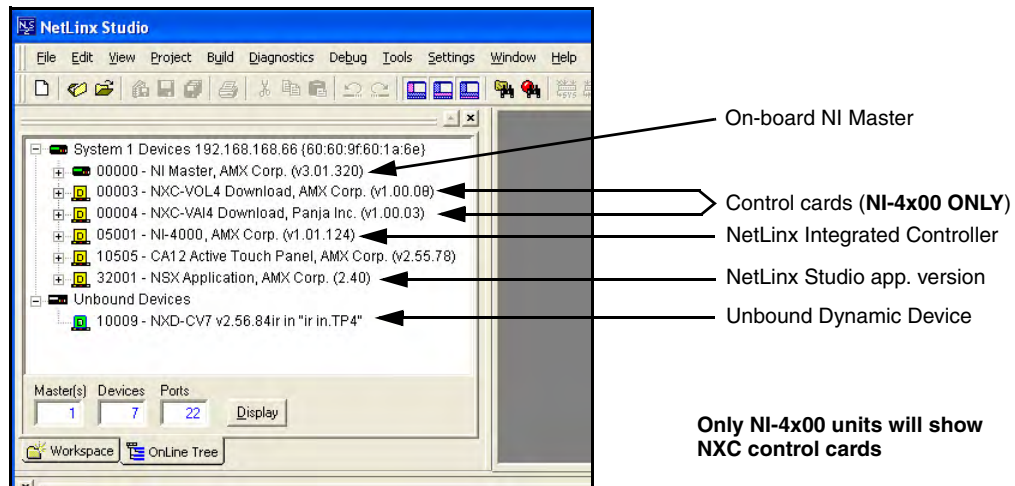

FIG. 39 Sample NetLinx Workspace window (showing OnLine Tree tab)
1. After Studio has establish a connection to the target Master, click on the **OnLine Tree** tab in the Workspace window to view the devices on the System. *The default System value is one (1).*
- After the Communication Verification dialog window indicates active communication between the PC and the Master, verify the NetLinx Master (**00000 NI Master**) appears within the **OnLine Tree** tab of the Workspace window (FIG. 39).